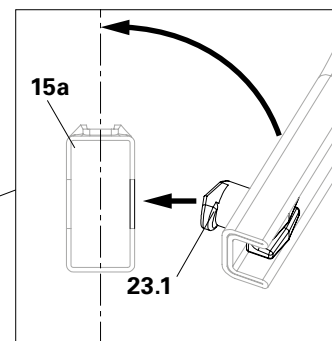

Fig. A4.07b
2. Insert the mounting finger (**23.1**) of the Ledger Brace UBL (**23a**) diagonally into the hole of the lower Horizontal Ledger UH Plus (**15a**) and swing the ledger diagonal towards the base scaffold. (Fig. A4.07b)